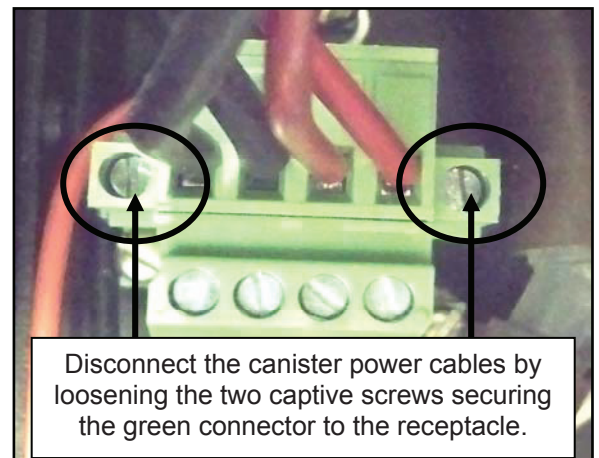

Figure 2. THE CANISTER POWER CABLE CONNECTOR.
5. Disconnect the canister power cables by loosening the captive screw at each end of the green power connector. See Figure 2.